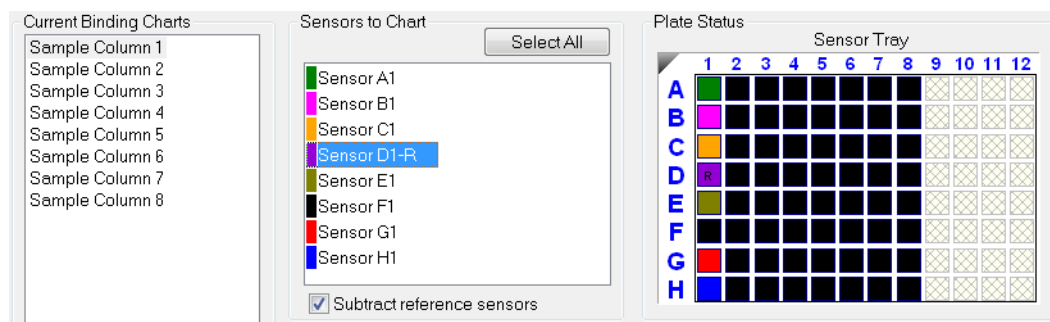

Figure 6-58: Subtract Reference Sensors check box in the Runtime Binding Chart
1. In the **Sensors to Chart** list or the **Sensor Tray**, right-click a biosensor and select **Reference** (see Figure 6-58).
The selected biosensor will be shown with an **R** in the **Sensors to Chart** list and **Sensor Tray** (see Figure 6-58).
2. Click the **Subtract reference sensors** check box (see Figure 6-58).